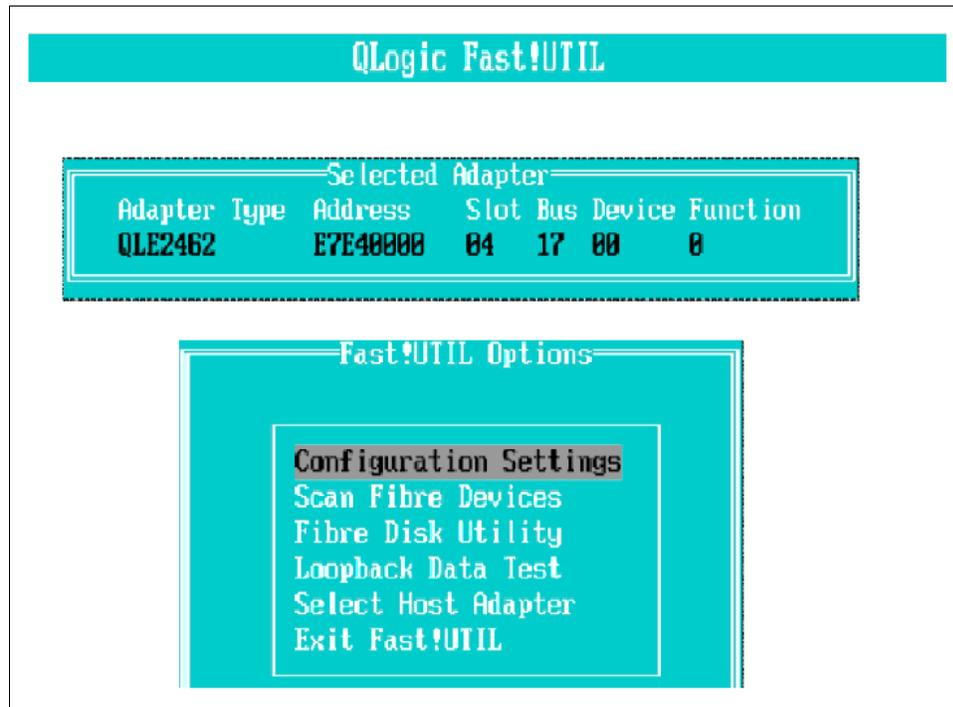

Figure 18-24 Configuration settings for QLE2462 adapter panel
4. Select **Configuration Settings** and press Enter, as shown in Figure 18-24.